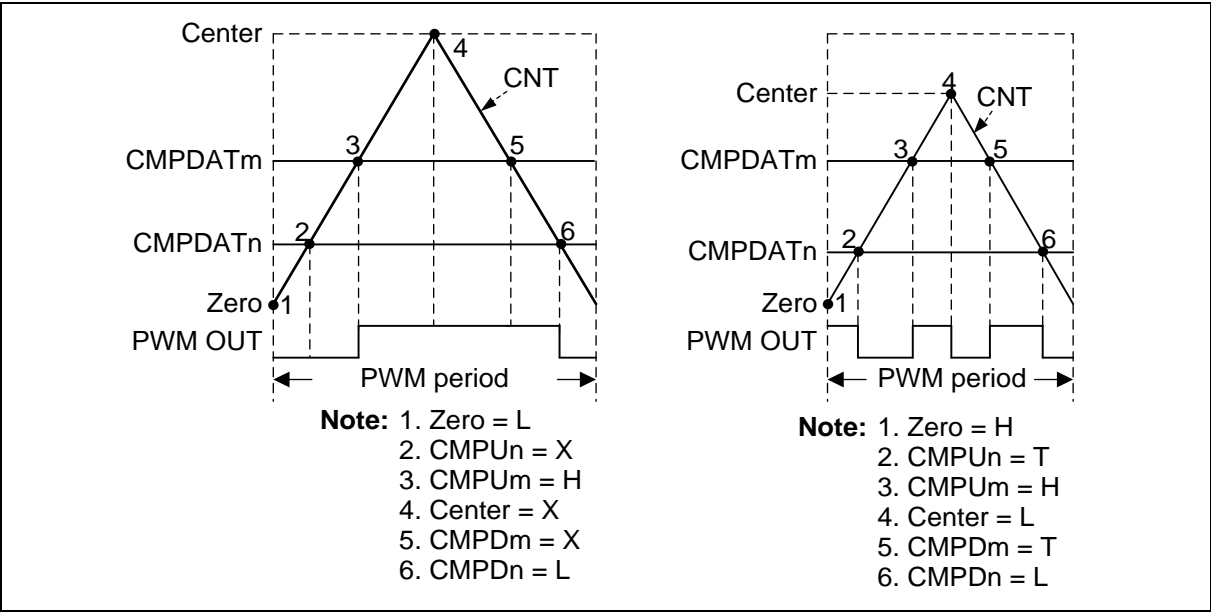

Figure 6.13-17 PWM Pulse Generation
Each event point can decide PWM waveform to do nothing (X), set Low (L), set High (H) or toggle (T) by setting the PWM_WGCTL0 and PWM_WGCTL1 registers. Using these points can easily generate asymmetric PWM pulse or variant waveform as shown in Figure 6.13-17. In the figure, PWM is in complementary mode, there are two comparators n and m to generate PWM pulse. n denotes even channel number 0, 2, or 4, and m denotes odd channel number 1, 3, or 5. n channel and m channel are complementary paired. Complementary mode uses two channels (CH0 and CH1, CH2 and CH3, or CH4 and CH5) as a pair of PWM outputs to generate complement paired waveforms. CMPU denotes $CNT(PWM_CNTn[15:0])$ is equal to $CMP(PWM_CMPDATn[15:0])$ when counting up. CMPD denotes CNT bits is equal to CMP bits when counting down.